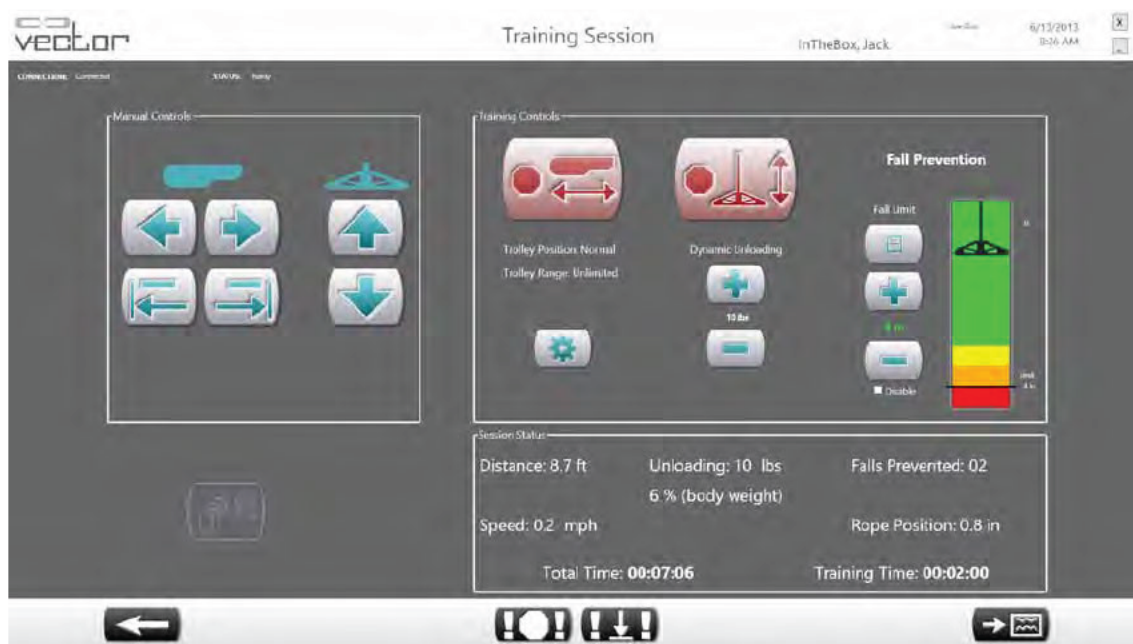

Figure 5-8: Trolley Tracking and DBWS Active
The Session Status section displays real-time information during a training session. See Figure 5-8. It displays the amount of weight unloaded, total session time, training time, walking speed, rope position, number of falls prevented and total distance walked during the training session.
3. To activate the Trolley Tracking, apply at least 10 lbs (4.5 kg) of load and press the button. The Trolley Tracking button will go from green to red indicating that the feature is turned on. See Figure 5-8.
4. To activate Dynamic Body Weight Support press the button. The DBWS button will go from green to red indicating that the feature is turned on. See Figure 5-8.